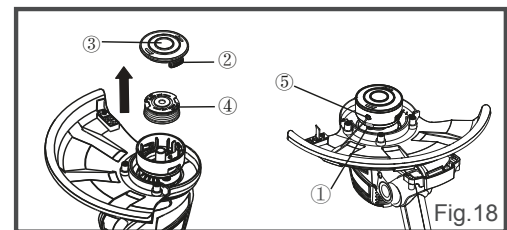

Fig. 18
- Press together both the locking tabs (②) on either side of the spool cover (③) and remove the cover (Fig. 18).
- Remove the empty spool (④) from the trimmer head housing.
- Set the new spool with the smooth side facing upward onto the trimmer head and put the line end through the line eyelet (⑤). Pay attention that the line end does not slip off the grooves of the spool. Ensure the line is not held in the parking slot on the spool before replacing the spool cover referring to the Line Replacement section.
- Keep the line release button (①) pressed and pull out the line end far enough so that it protrudes over the line cutting blade (Fig. 18).